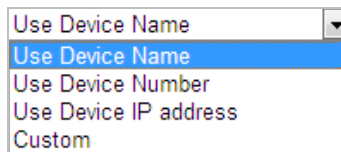

Figure 7-12 Parent Directory
- ◆ **Parent directory:** The files will be saved in a folder in FTP server. The name of folder can be defined as shown in following Figure 7-12.